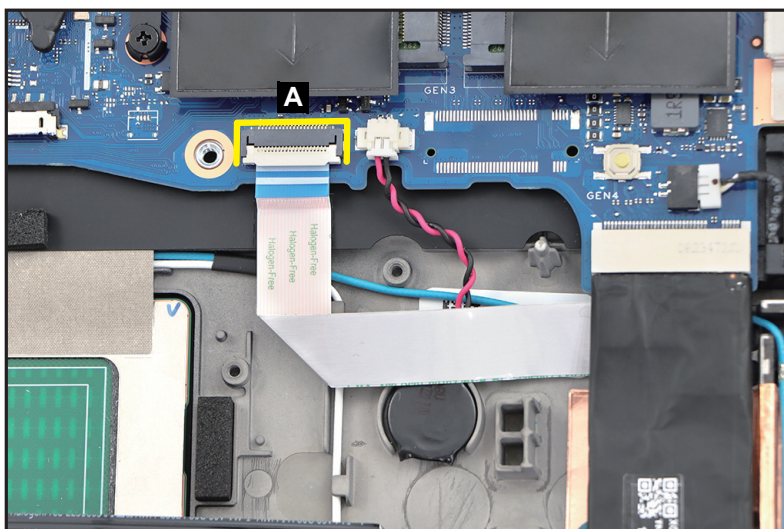

Figure 1-32. RTC Battery Removal
1. Disconnect the card reader board FFC from the mainboard connector (A) (Figure 1-32).